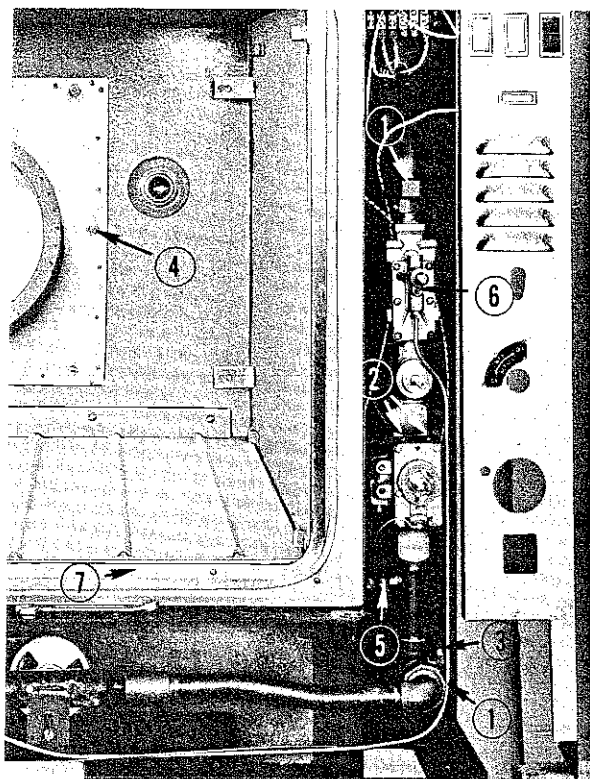

FIG. 14
5. Disconnect control stack unions (Figure 14, No. 1).
6. Remove control stack securing screws (Figure 14, No. 2).
7. Disconnect pressure switch fitting (Figure 14, No. 3).
3. Remove oven compartment bottom (Figure 14, No. 7). After removing screws, slide bottom forward and out of oven.
3. Remove the eight nuts from the motor mount panel (Figure 14, No. 4).
2. Disconnect pressure switch fitting (Figure 14, No. 3).
4. Remove pressure switch (Figure 14, No. 5), from spring clip bracket.